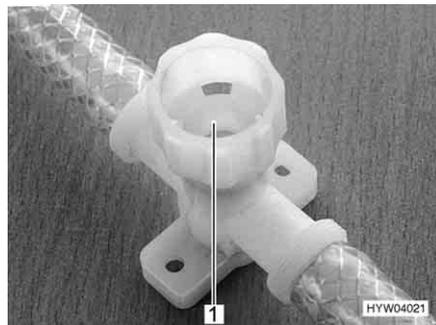

Fig. 144 Drain cock for hot water source
- Close all drain cocks. To do this, close the caps (Fig. 144,1) by turning them in a clockwise direction.
- Open all drain cocks of the hot water source. To do this turn the caps (Fig. 144, 1) in an anticlockwise direction.